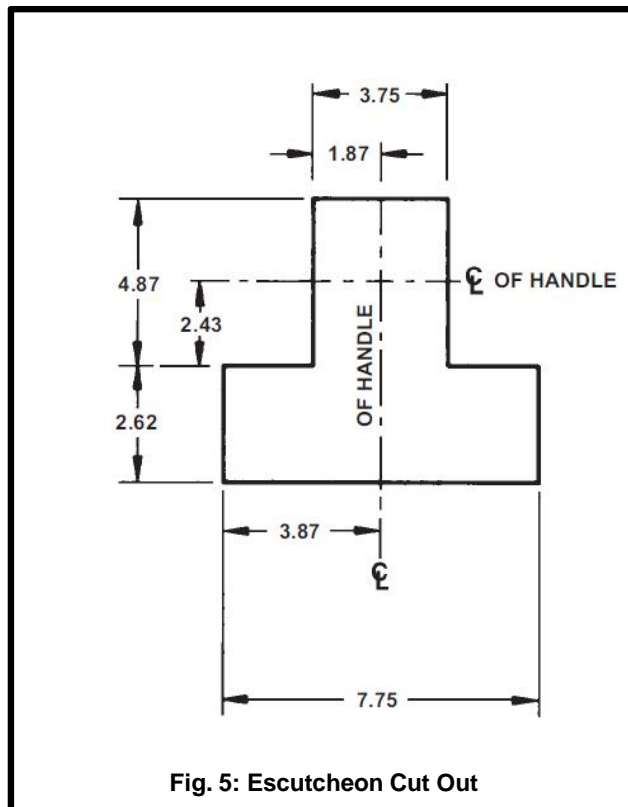

Fig. 5: Escutcheon Cut Out
4. Replace all end plates (J) and line and load terminal shields (D). Tighten terminal shield screws securely.
6. For escutcheon cut out refer to Fig. 5.